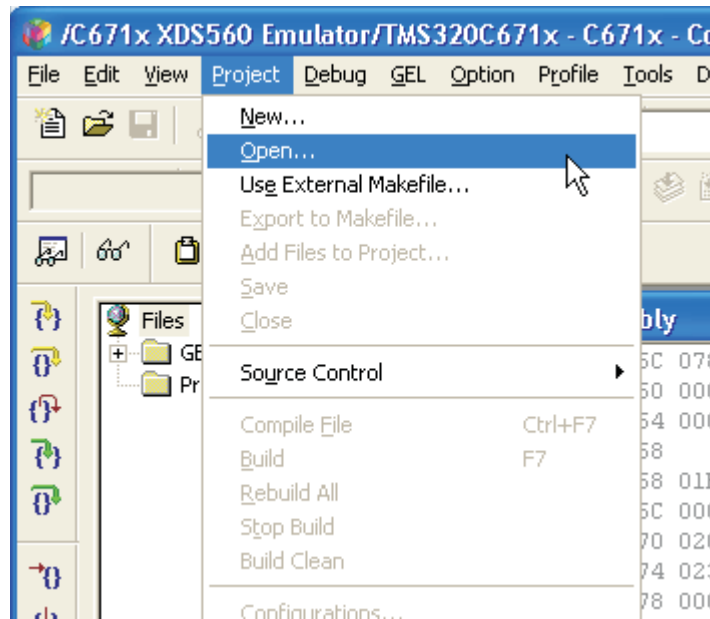
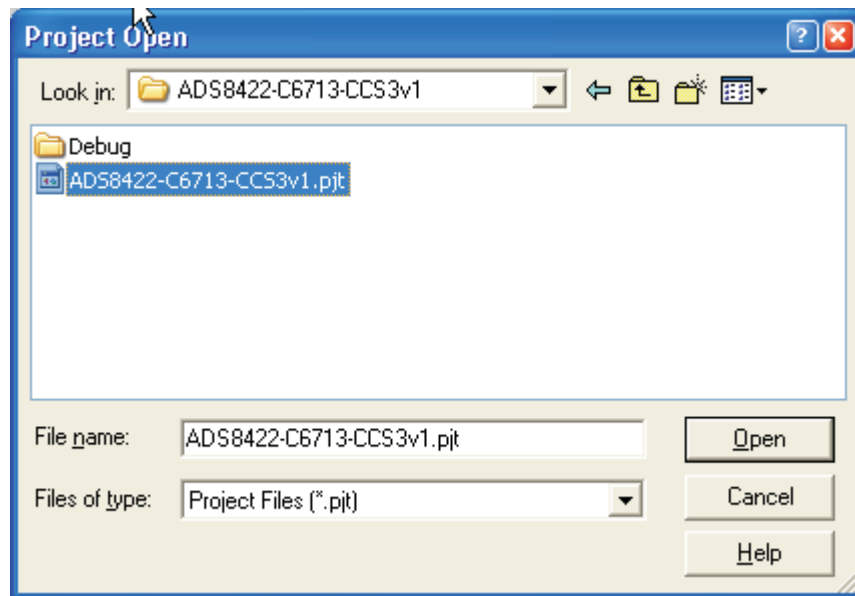

Figure 5. CCS Project Menu
Figure 6. CCS Project Open Dialog
- In Code Composer Studio™, open the project for your DSP hardware platform (see Figure 5 and Figure 6) by clicking on *Project* → *Open* on the Code Composer Studio™ menu bar and loading the respective project for your hardware/starter kit from the path applying to your hardware: